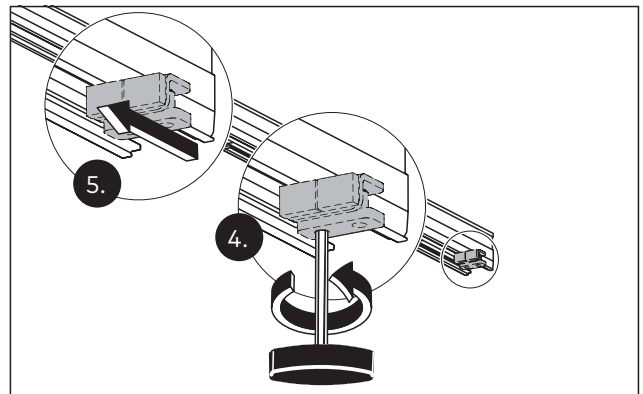

Fig. 16 Slide the end stops along
4. Loosen the screws on the end stops on the connection side of both drives (Fig. 16).
5. Push the end stop towards the center of the drive (Fig. 16).